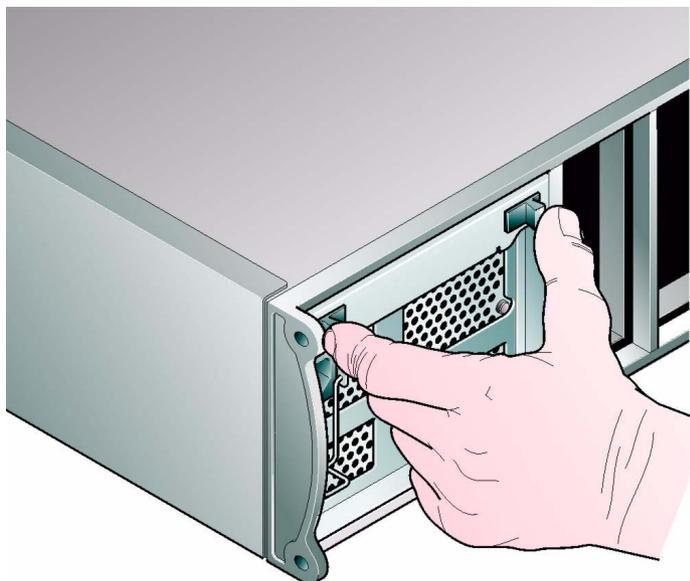
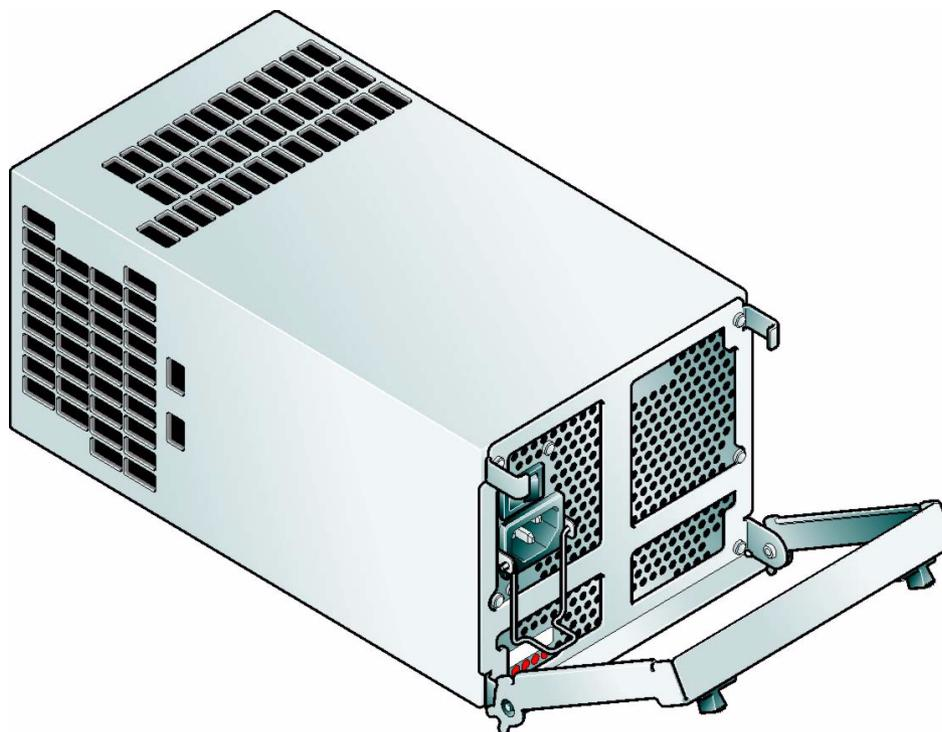
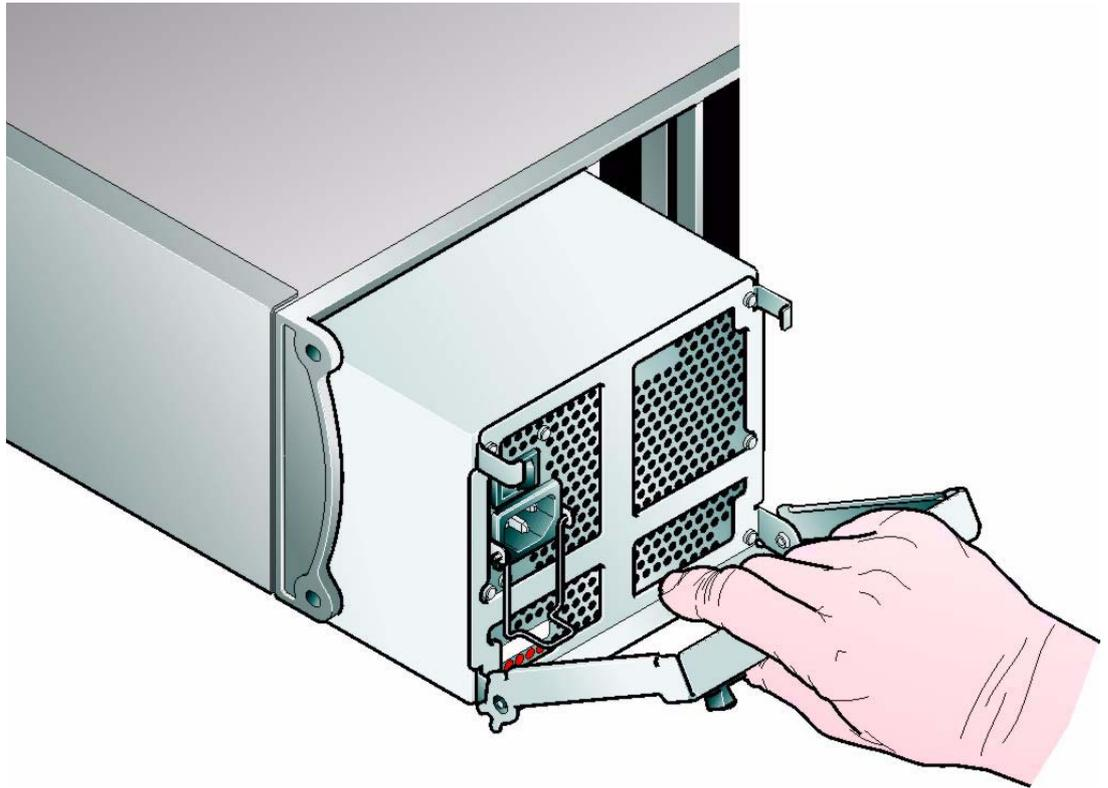

Figure 4-1 Removing/Inserting an AC Power Supply/Cooling Module (1)
Figure 4-2 Removing/Inserting an AC Power Supply/Cooling Module (2)
Figure 4-3 Removing/Inserting an AC Power Supply/Cooling Module (3)
- 3 Squeeze the two latches on the PSU handle together (Figure 4-1) and open the handle to cam the PSU out of the enclosure (Figure 4-2).
- 4 Grip the handle and withdraw the PSU (Figure 4-3).
- 2 With the PSU handle (Figure 4-2) in the open position, slide the module into the enclosure
3 Cam the module home by manually closing the PSU handle (see Figure 4-3). A click should be heard as the handle latches engage (see Figure 4-1).